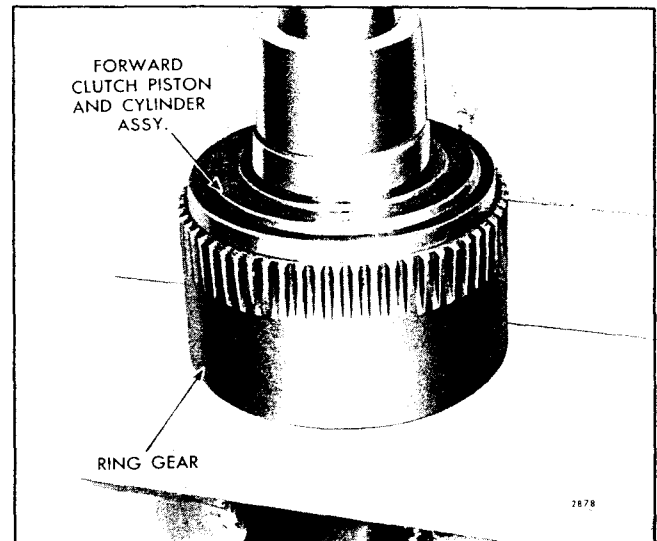

Fig. 61 - Installing Forward Clutch Piston and Cylinder Assembly in Ring Gear
- m. Place the planetary ring gear assembly on the bed of an arbor press, with the forward clutch piston cylinder end facing up and under the ram of the press. Place a short 3" outside diameter steel bar on top of the forward clutch piston cylinder; then, very carefully press the piston cylinder straight into the ring gear as shown in Fig. 61 until it contacts the snap ring and the groove in the top of the ring gear is fully exposed.